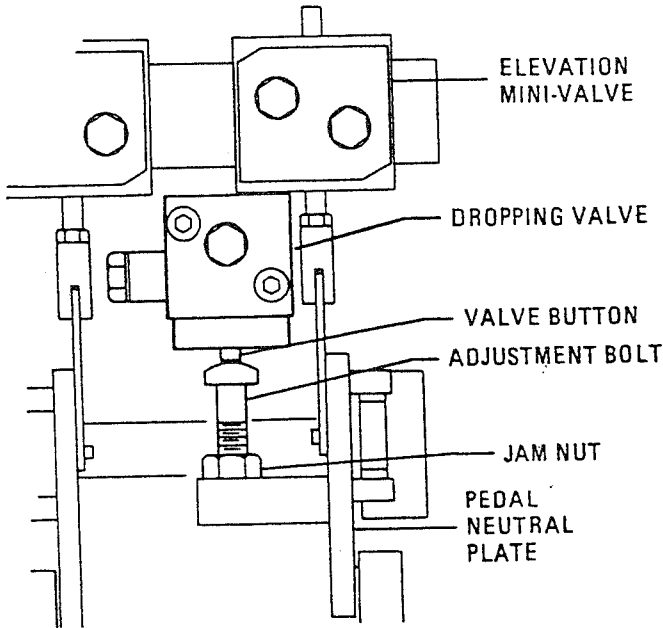

Figure 1-35. Model 1200
3. Adjust either the valve (by sliding it back and forth) or turn the adjustment bolt (depending on model) so that the valve button is depressed when the foot control lever is in the down position. See figure 1-35. and 1-36.